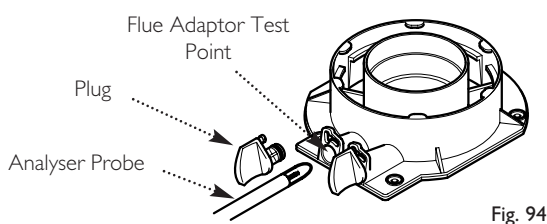

Fig. 94
8. Remove the plug from the flue adaptor test point. Insert the analyser probe and allow time for the reading to settle (Fig. 94).